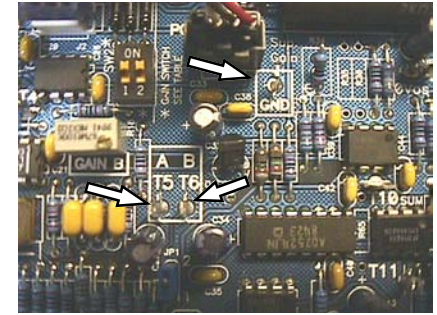

Fig 4.3 Ground and Test points T5(A) and T6(B),
4. Set DMM to read mVDC; connect RED (positive) lead to T5(A) and BLACK (negative) lead to Ground (next to black DC power input connector). (Fig 4.3)
2. Set DMM to read VDC and connect RED (positive) lead to T5(A) and BLACK (negative) lead to Ground (next to black DC power input connector). (Fig 4.3)